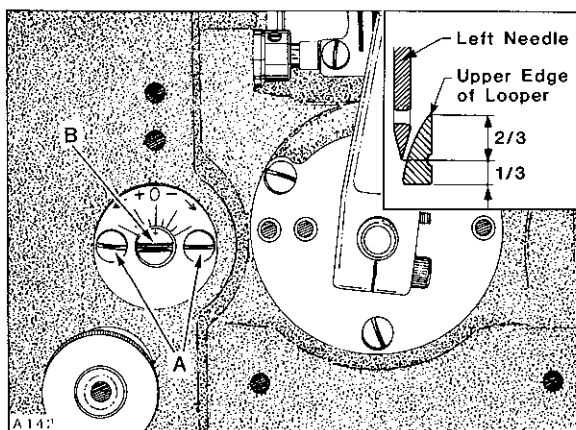

Fig. 12
Machine is equipped with a quick adjustable looper avoid mechanism to accommodate extreme differences in needle sizes. As the looper travels from left to right with the needle bar descending, the LEFT needle should contact ONLY the lower THIRD of the back of looper blade. Adjustment can be made by loosening two screws (A, Fig. 12) and turn eccentric stud (B) towards the plus side (counterclockwise) for MORE looper avoid or towards the minus side (clockwise) for LESS. When properly set, tighten screws (A).